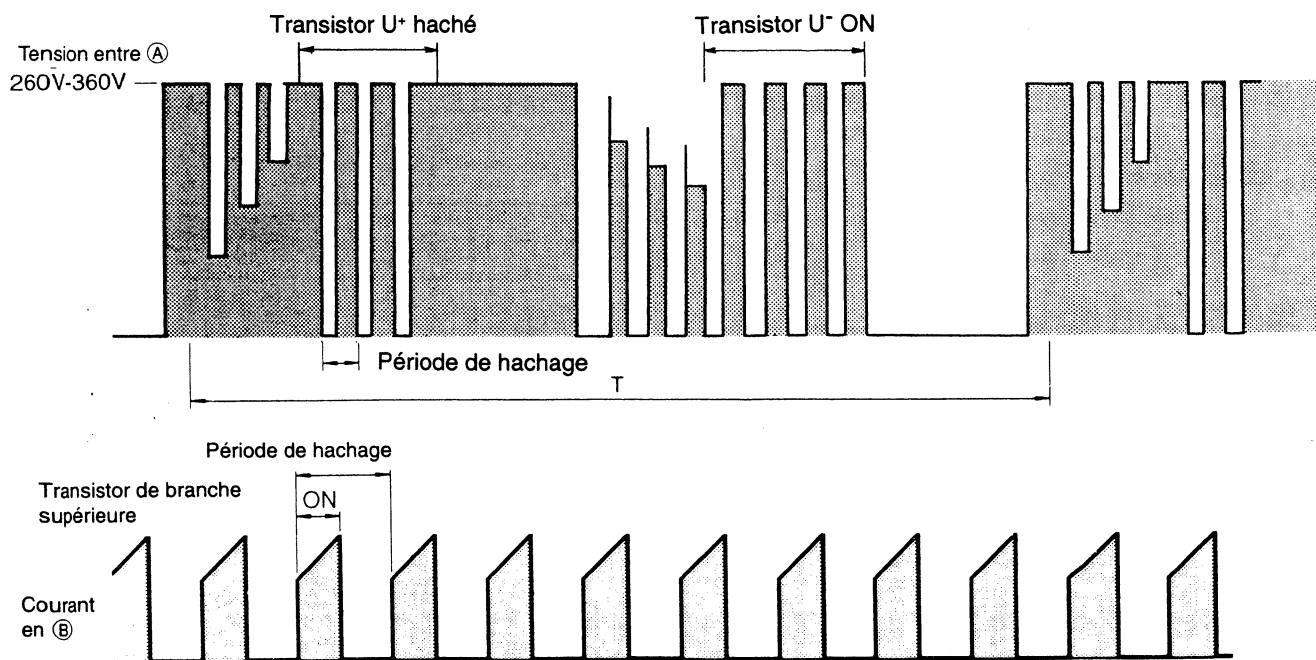

Fig. 3-3 Forme d'onde de la tension en chaque point
- La figure 3-3 représente la forme d'onde de la tension à chaque point dans les figures 3-1 et 3-4.
- Since current flows at point ② only when U⁺ transistor is ON, the current waveform at point ② becomes intermittent waveform as shown in Fig. 3-3. Since current at point ② is approximately proportional to the input current of the air conditioner, input current is controlled by using DC current (I_d) detection resistor.